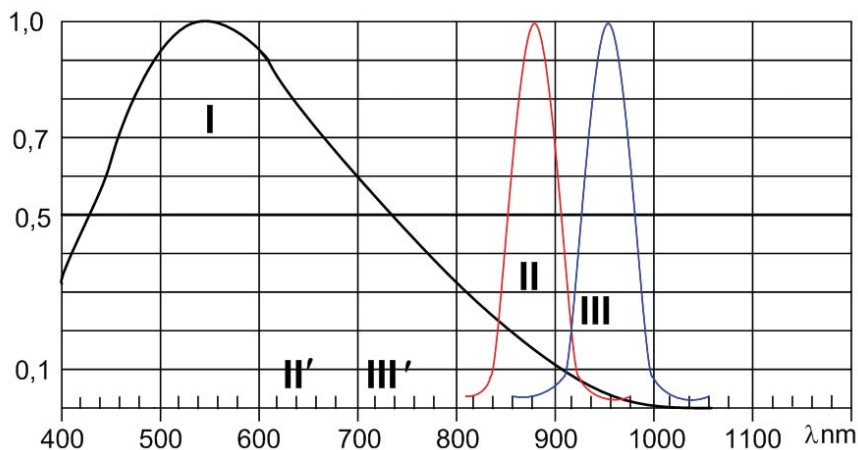

Fig. 1
In modern IR illuminators they use LEDs with generation lines of 870 – 880 and 940 – 950 nm. Taking into account spectral sensitivity of standard CCD array, presented on figure 1, illuminators with minimal wavelength are the most efficient ones. In this case decrease of equivalent sensitivity of TV camera is minimal and this enables to increase illumination range. Besides image misfocusing effect as a result of refraction coefficient change together with focal plane of the lens shift is minimal as well. However light – red distinct glow of diodes' chips can reduce to nothing all the measures for the secrecy of surveillance. Generation line shift to 940 – 950 nm leads to decrease of glow intensity of chips together with simultaneous shift of emission color to dark – cherry. In all probability, less visibility of glow is connected first of all with approaching of visible component to sensitivity border of an eye (750 nm). It is also confirmed by the color of the glow thanks to which we can access the visible component as close to 600 nm and 700 nm respectively for emitters with the wavelength of 870 – 880 nm and 940 – 950 nm. Specialists have long explained the IR LED luminous efficiency as the high – frequency edge of the emission spectrum being sensed by the human eye. LED based on its operation principle is a relatively monochrome source, its spectrum width not exceeding 30 – 40 nm at 0.5 levels. Plus one can not expect any long “tail” areas in the spectrum that could be caught by the human's eye. Besides color sensation of any qualified observer contradicted these suppositions. At the same time spectrograms, attached by manufactures, did not extraneous emission lines.
Special spectrum measurements of emitters on the basis of array LED IR – 6 with the generation wavelength of 880 nm which were carried out on a modernized spectrometer definitely registered the second maximum in the region of 600 nm comprising 0,0074 from the maximum value of primary emission power at the wavelength of 870 – 880 nm. Emission with such wavelength has bright red color. In all probability the appearance mechanism of the second maximum for the emitters for 940 and 950 nm is the same. This is indirectly confirmed by the shift of glow visible component to cherry color. On figure 1 one can see the relative position of spectral characteristic of CCD array (I) of main spectrums of IR – illuminators with the wavelength of 880nm (II) and 950 nm (III) and spectrums of spurious visible component (II') and (III') for every emitter.
When using IR - illumination for video surveillance one may consider an infrared source as quite narrow - band and monochrome. That is with accuracy enough for practice one may calculate all the emitter power concentrated in the maximum of its spectral characteristic. As in the case with interpretation of monochrome and white light interaction with the human eye we can assess the creation of equivalent IR illumination for CCD array with regard to its sensitivity in the illumination spectral region. Averaged standard spectral characteristic of CCD array sensitivity (I) is given on fig. 1. The diagram shows that the camera sensitivity for generation lines of widespread LED IR - illuminators with the wavelength of 880nm (I) is about 14 and 5% from the maximal value respectively.